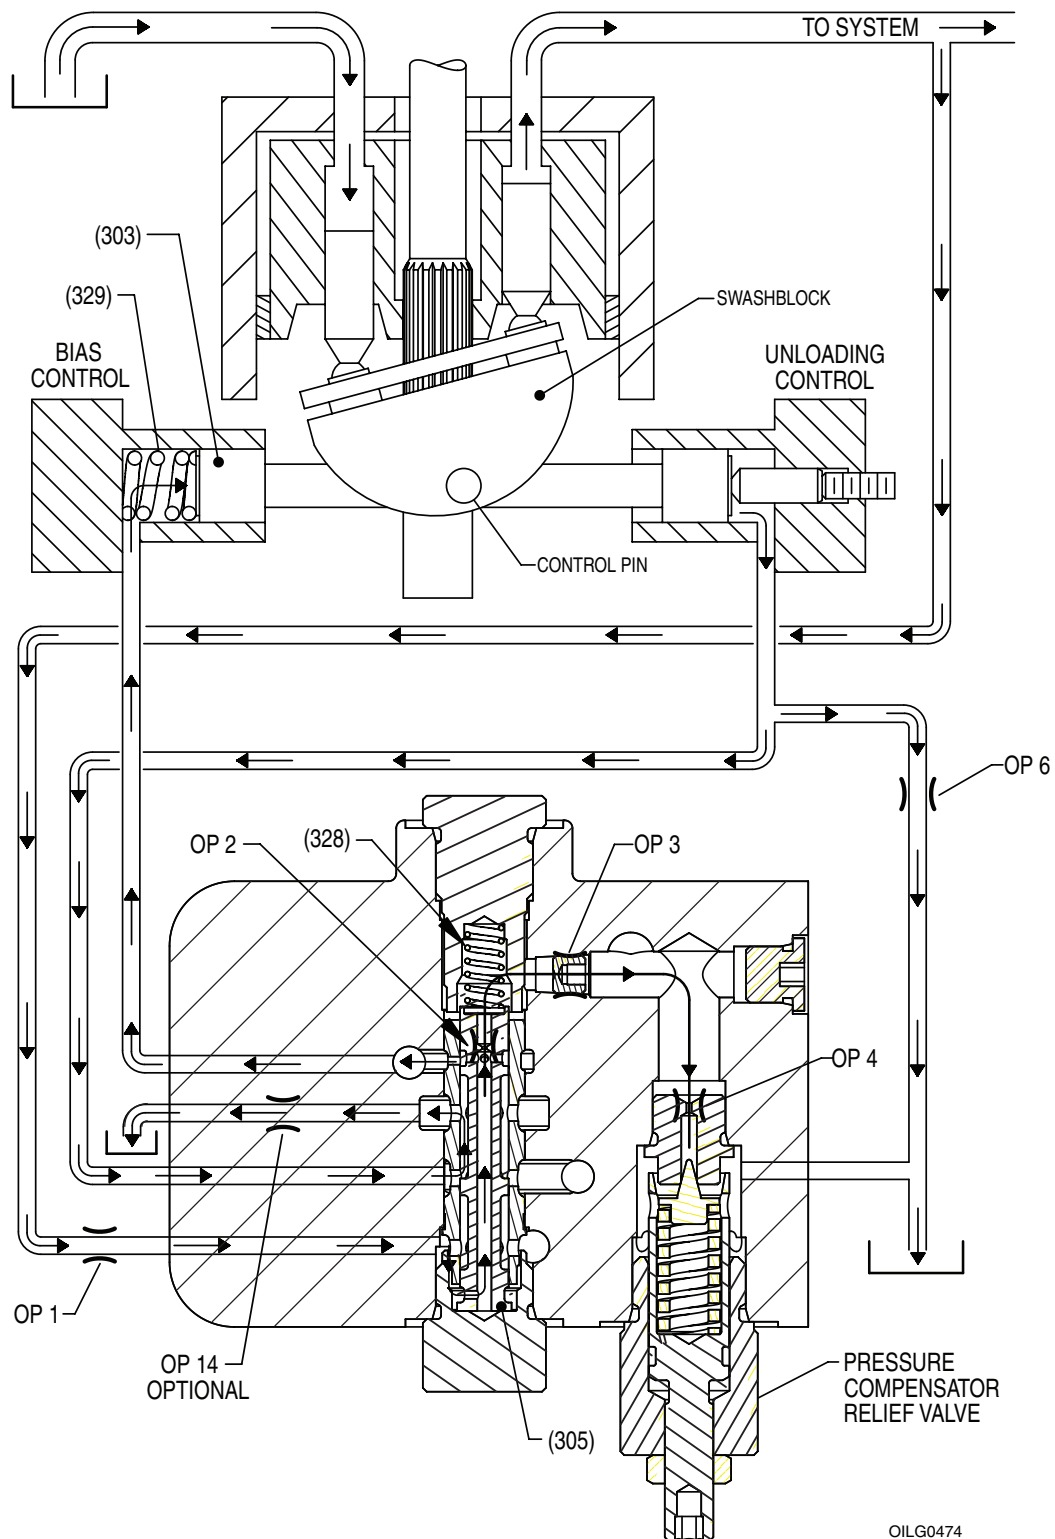

Figure 4. Raising Pressure - Loading
If the system pressure drops below the preset compensating pressure, the relief valve poppet (307) seats and closes the path to drain. Pressure on either side of the control spool (305) will become equal and the spring (328) will shift the spool (305) to the original position (Figure 4). Fluid from the unloading control piston (302) is then ported to drain and outlet pressure is ported to the bias control piston (303). Pump displacement will increase until the relief valve setting is reached again.